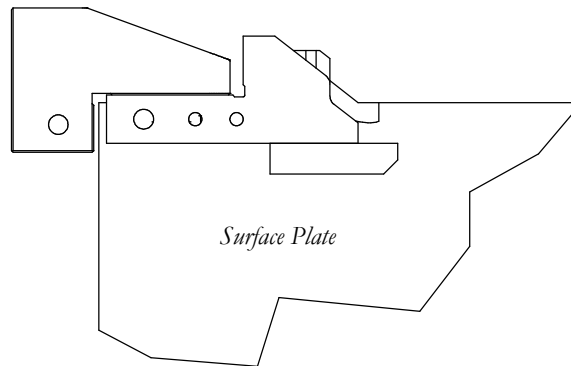

Figure 14
STEP 28. Lay the vertical vise only, on the corner of the surface plate as shown in Fig. 14. Do not allow the TD01 to touch the surface plate.